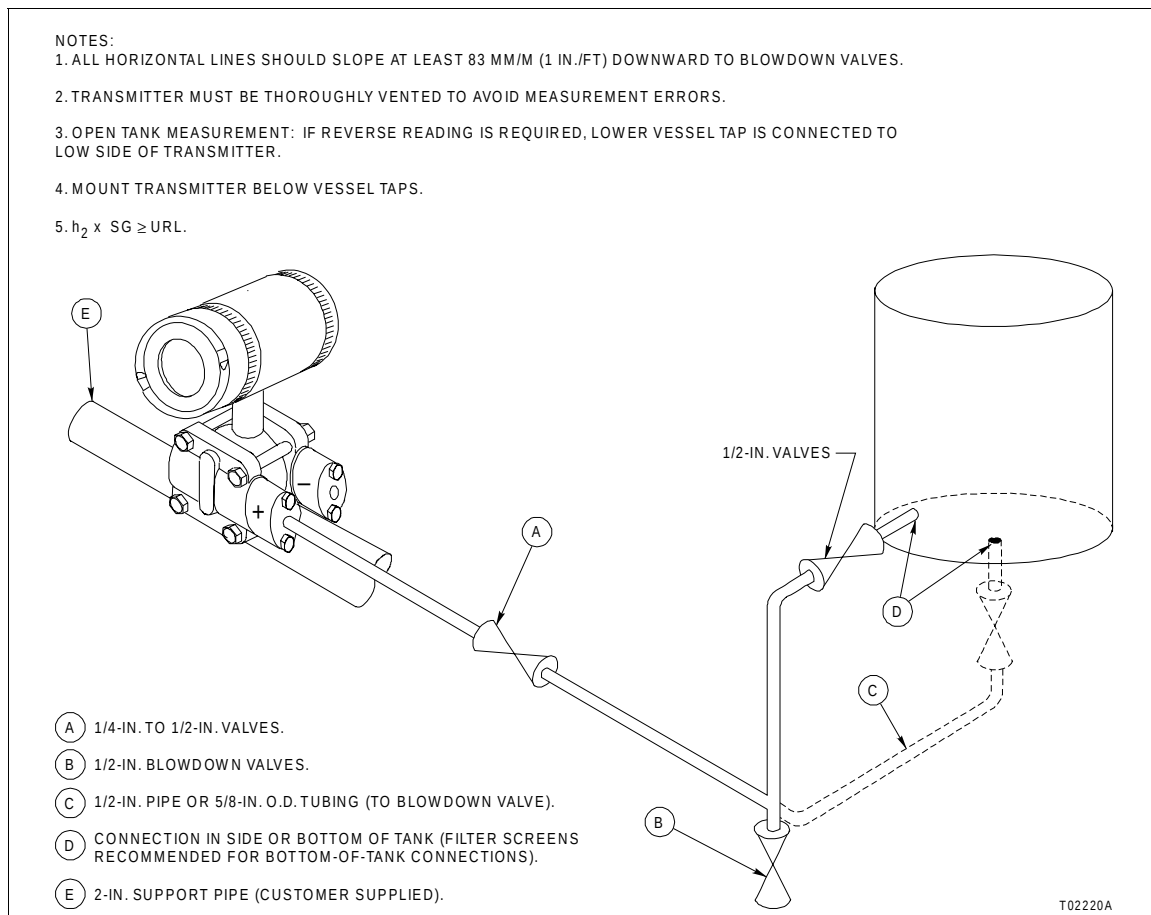

Figure 3-8. Open Tank Level Measurement Piping
1. Figure 3-8 shows a typical piping arrangement for open tank level measurements.
4. Observe the conventions as shown in Figure 3-8.